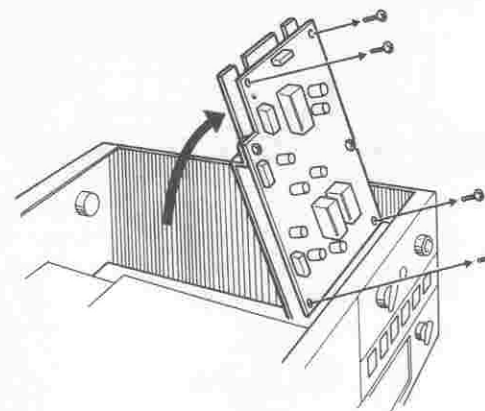

Fig. 2 Unscrew and Swing the IF Unit Forward
- Tilt the IF unit upright as shown in Fig. 2.